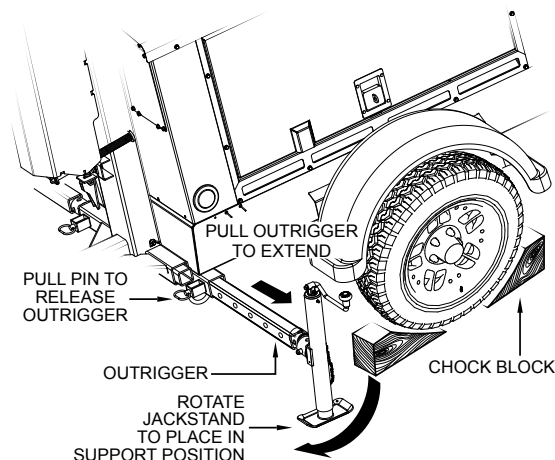

Figure 17. Deploying Outriggers
1. Place light tower on secure level ground with chock blocks (Figure 17) underneath each wheel to prevent the light tower from rolling.
2. Make sure **all** outriggers (Figure 17) are extended. To extend the outriggers, pull the locking pin on the outrigger and hold while sliding out the outrigger assembly